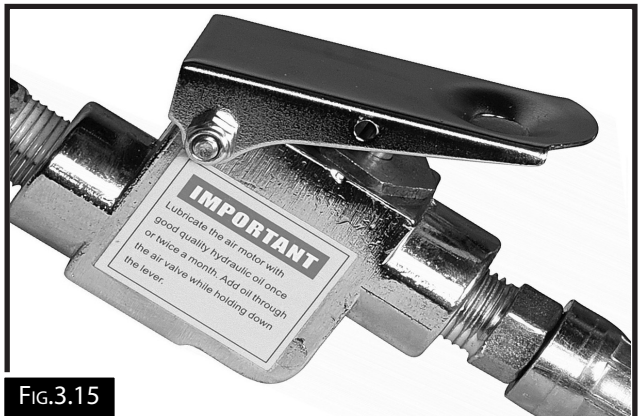

Fig.3.15
3. Press the air valve (Fig.3.15) and hold for a few seconds then release the valve. Alternatively pump the handle manually. Repeat this process several times..